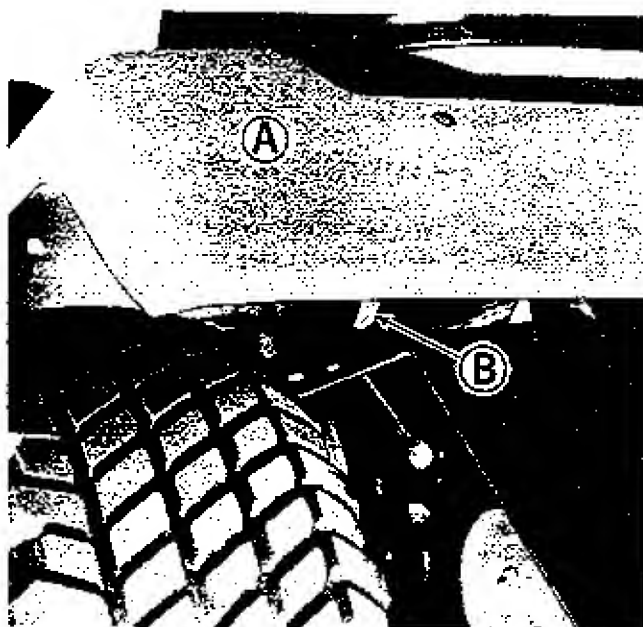
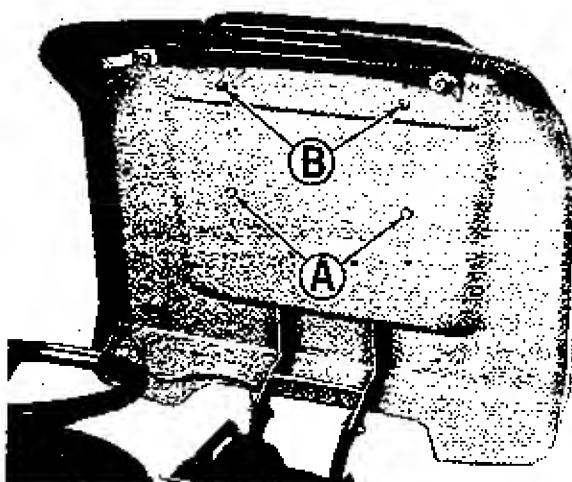
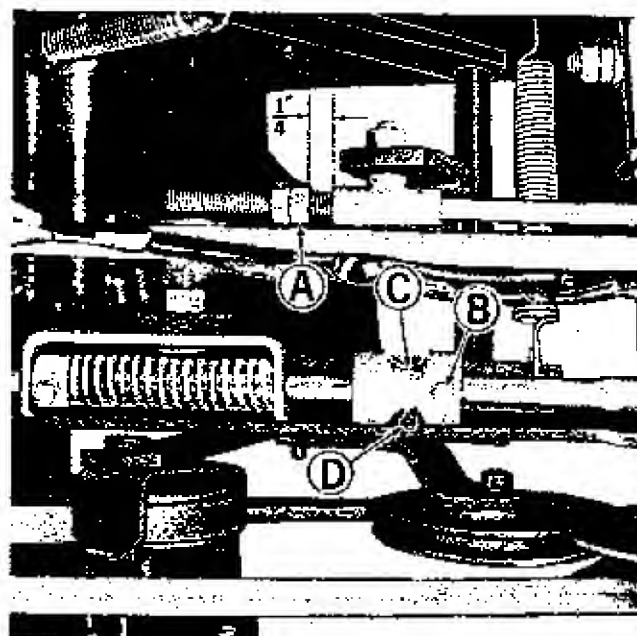
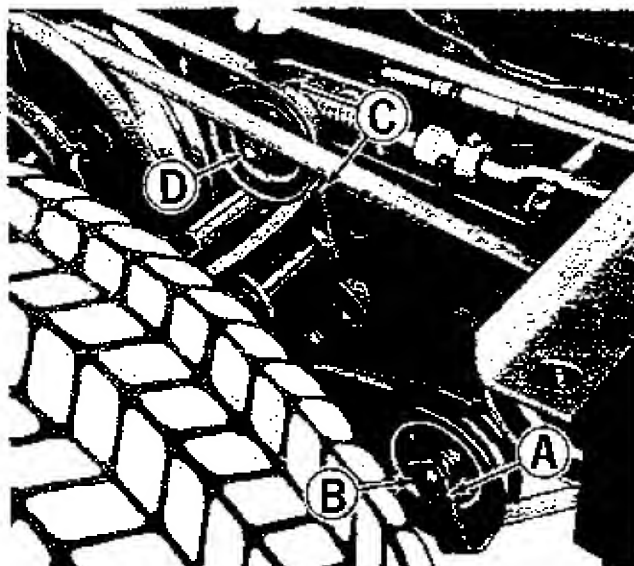

Figure 7. Seat deck release at front of seat deck.
Figure 8. Seat deck raised.
Figure 9. Clutch free travel and shuttle drive adjustment.
Figure 12. Belt stop adjustments located under seat deck.
See figure 7. The tractor seat deck (A) is hinged at the back. To raise the seat deck, reach under it from each side and pull the two locking levers (B) to the outside. As you hold the locks out raise the seat deck as shown in figure 8. Raising the seat deck in this manner will expose many of the transmission adjustment and maintenance areas.
See figure 8. The tractor seat is properly adjusted when the operator can comfortably operate the clutch and brake pedal while sitting back in the seat. The seat can be adjusted forward or back in any of four positions. If adjustment is required, proceed as follows:
1. See figure 8. Position the seat deck as shown by following the instructions under Raising the Seat Deck on page 9.
2. Remove the two cap screws and lock washers at (A).
3. Remove the two nuts and lock washers at (B).
4. If the seat is to be positioned in either of the two forward sets of mounting holes the two rubber spacers are placed over the studs at (B) and used between the seat and seat deck. If the seat is to be positioned in either of the two
See figure 9. The clutch free travel is correct when there is $\frac{1}{4}$ " between the nuts (A) and the rod guide when the clutch brake pedal is released and pulled rearward as far as it will go. If adjustment is required, proceed as follows:
1. Raise the seat deck as shown in figure 8, by following the instructions under Raising the Seat Deck on page 9.
2. Using two wrenches hold the forward nut at (A) stationary with one wrench while turning the rearward nut counter-clockwise slightly with the other to separate them.
4. Turn the forward nut at (A) as necessary so that the distance between it and the rod guide is $\frac{1}{4}$ " as shown in figure 9.
5. Using two wrenches hold the forward nut at (A) stationary while turning the rear one clockwise to tighten the two nuts together securely.
6. See figure 12. Check belt stop (A) and adjust it if necessary so it does not rub the drive belt when the clutch brake pedal is released. When the clutch brake pedal is depressed, belt stop (A) should pick up the drive belt to aid in disengaging it. If adjustment is required, loosen nut (B) slightly. Be sure to tighten nut (B) securely after the adjustment is completed.
3. See figure 9. Loosen set screw (B). Slide brake detent (C) forward or back as necessary to center it on brake pin (D). Tighten set screw (B) securely.
10. See figure 12. With the shuttle drive control lever locked in the forward drive position, belt stop (C) should be positioned so there is 1/16" to 1/8" clearance between each leg of it and the clutch belt. If adjustment is necessary, loosen nut (D) slightly. Tighten nut (D) securely after the adjustment is completed.